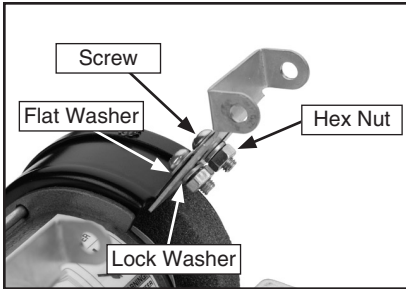

Figure 3. Eye Shield Bracket Installation.
- Attach the eye shield brackets to the buffer with the 5mm Phillips head screws, flat washers, lock washers and hex nuts, as shown in **Figure 3**.